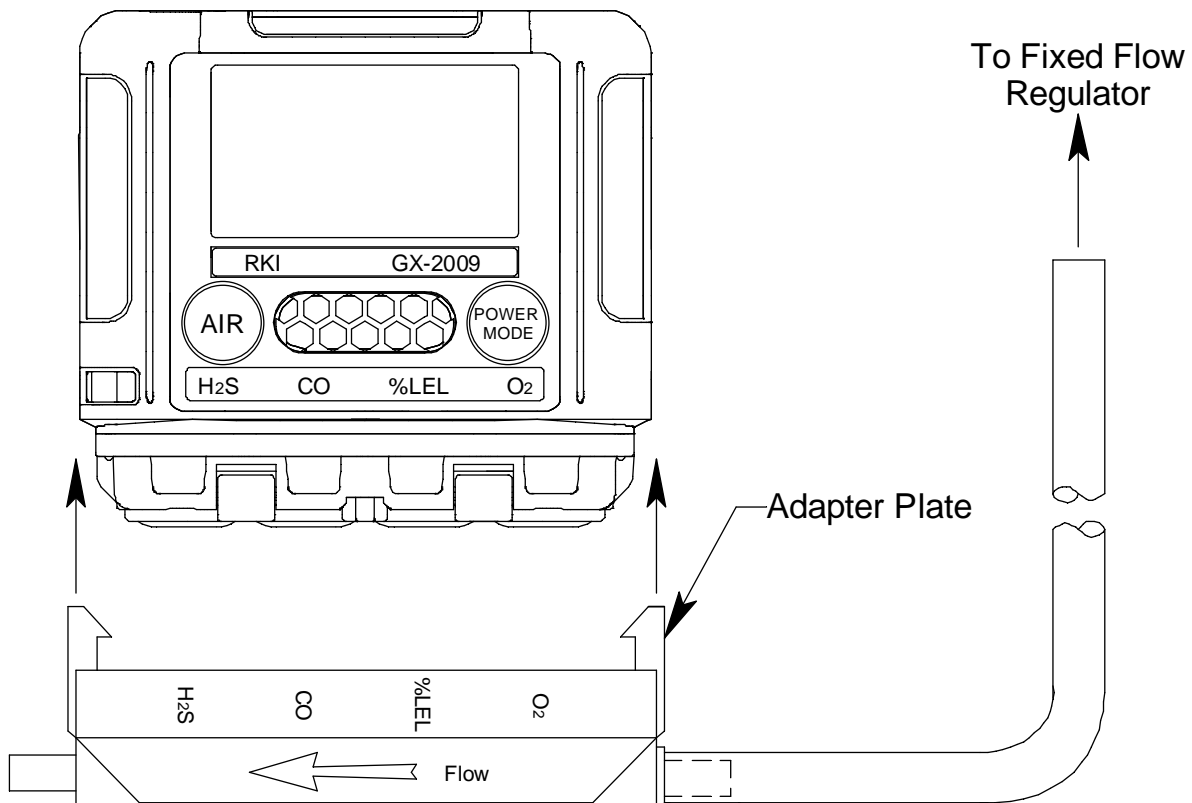

Figure 23: Installing the Adapter Plate, Auto Cal
9. Hold the GX-2009 in place with one hand while pushing the adapter plate onto the GX-2009's sensor face with the other to avoid moving the GX-2009 excessively and losing the connection to the computer. Make sure the adapter plate is oriented as shown in Figure 23 below with the sensor names on the adapter plate matching up with the sensor names on the instrument.